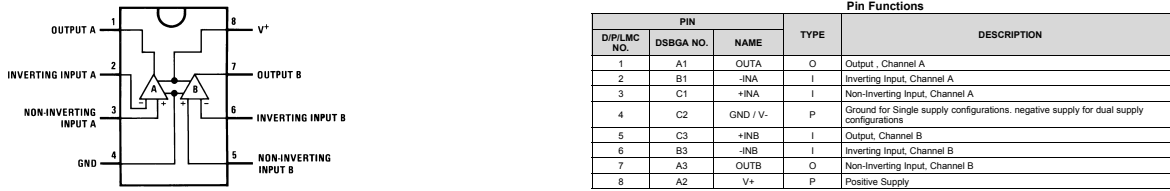

Figure 13: Pin layout (left) and descriptions (right) of the LM358 Op-Amp. Source: datasheet from <http://www.ti.com/lit/ds/symlink/lm158-n.pdf>
- use the LM358 operational amplifier (with gain 1) to amplify the sensor signal. The pin layout is given in the datasheet or in figure 13.